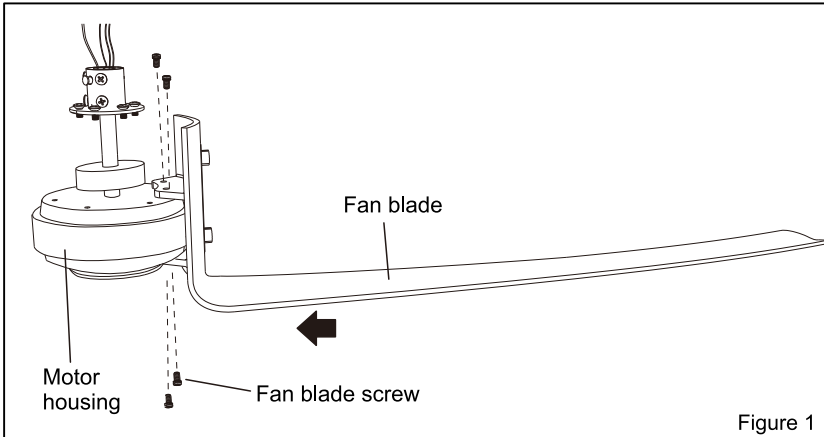

Figure 1
- Align the fan blades with the motor holes and tighten the screws. (Figure 1)